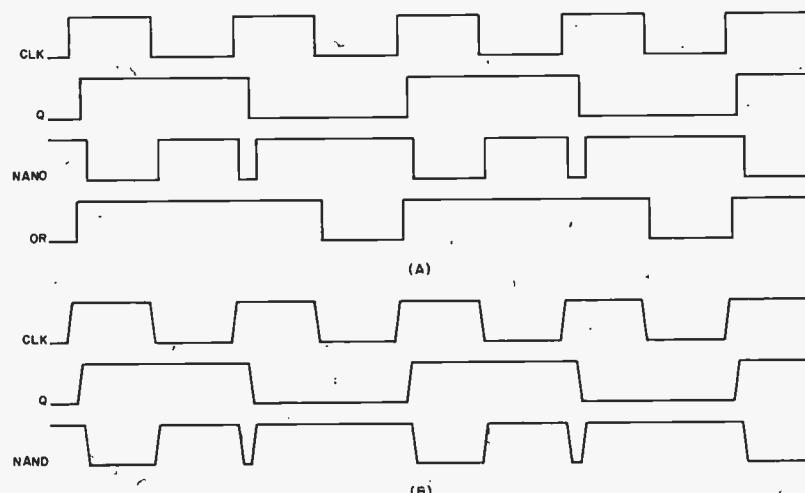
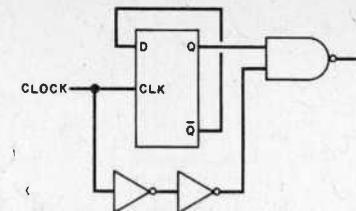

Fig. 5. Expansion of Fig. 4B shows propagation delay.
Fig. 8. Modification of Fig. 4.
- Glitches are caused by unbalanced propagation delays in the signal path. In theory, the glitch of Fig. 5 could be eliminated by adding a delay in the circuit as shown in Fig. 8. This would require that both inverters and flip-flop have “typical” delay specifications.